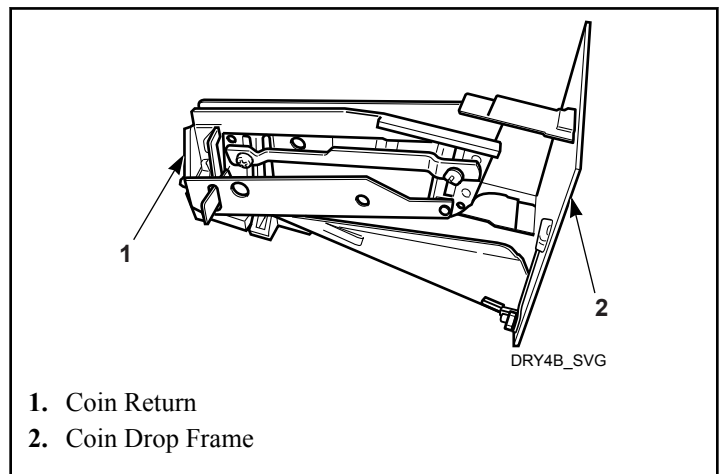

Figure 25
7. Remove coin return from coin drop frame. Refer to *Figure 25*.